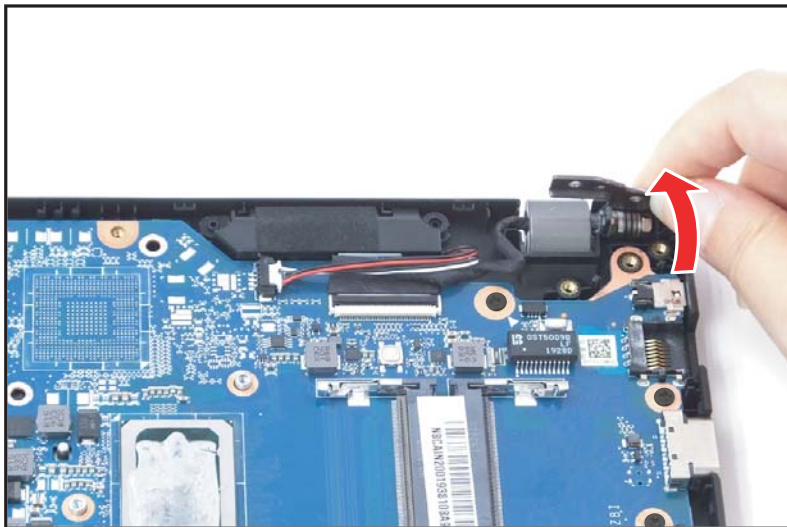

Figure 1-44. Mainboard Removal
3. Close the top assembly and lift the right side of LCD hinge until it is fully extended (Figure 1-44).